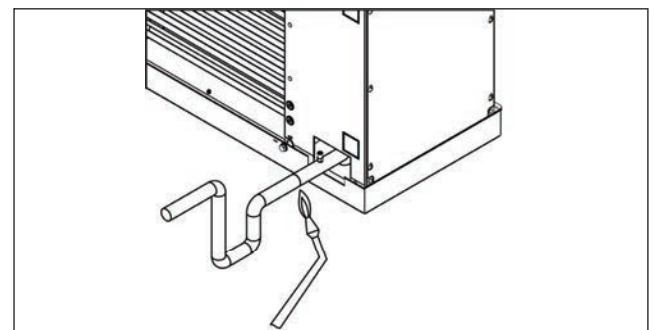

Fig. 11.3
4. Connect the suction line to the suction header (Fig. 11.3).